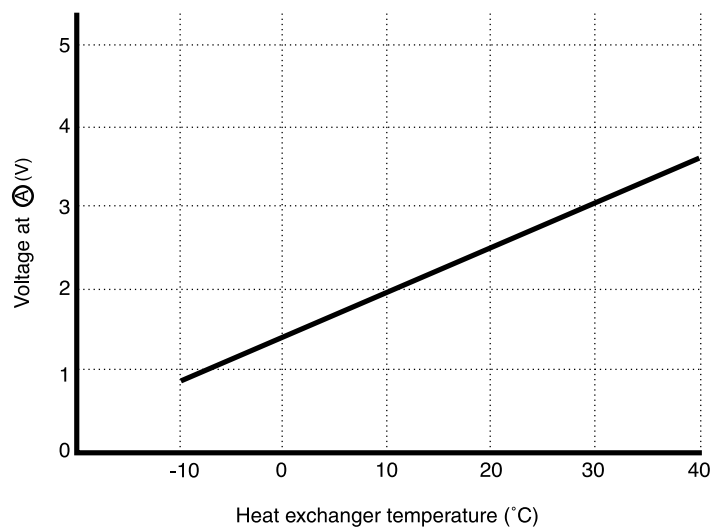

Fig. 7-2
(1) Low-temperature defrosting during cooling and dehumidifying operation.
The voltage at (A) depends on the heat exchanger temperature as shown in Fig. 7-2.